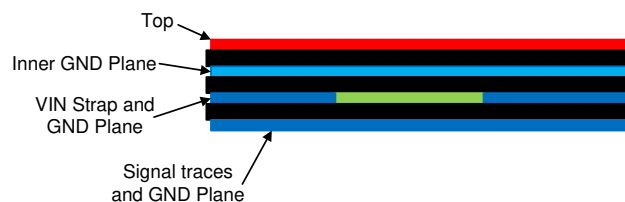

图 11-2. Example Layout for VQFN Package
The PCB layout of any DC/DC converter is critical to the optimal performance of the design. Bad PCB layout can disrupt the operation of an otherwise good schematic design. Even if the converter regulates correctly, bad PCB layout can mean the difference between a robust design and one that cannot be mass produced. Furthermore, the EMI performance of the regulator is dependent on the PCB layout, to a great extent. In a buck converter, the most critical PCB feature is the loop formed by the input capacitor or input capacitors, and power ground, as shown in 图 11-1. This loop carries large transient currents that can cause large transient voltages when reacting with the trace inductance. These unwanted transient voltages will disrupt the proper operation of the converter. Because of this, the traces in this loop must be wide and short, and the loop area as small as possible to reduce the parasitic inductance. 图 11-2 shows a recommended layout for the critical components of the LMR336x0AP-Q1.
1. **Place the input capacitor or capacitors as close as possible to the VIN and GND terminals.** The VIN and GND pins are adjacent, simplifying the input capacitor placement. With the VQFN package there are two VIN/PGND pairs on either side of the package. This provides for a symmetrical layout and helps minimize switching noise and EMI generation. A wide VIN plane must be used on a lower layer to connect both of the VIN pairs together to the input supply; see 图 11-2.